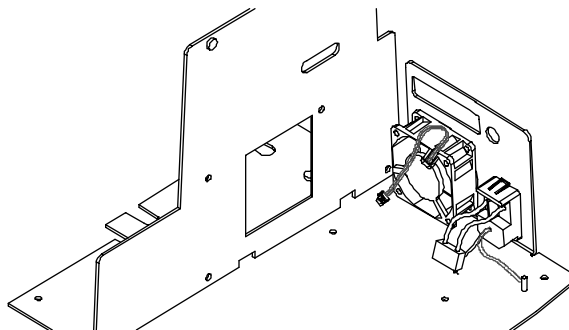

Figure 5-8. Cooling Fan/AC Entry Module Removal.
8. Using a #1 Phillips screwdriver and a 1/4" wrench or socket, remove the Fan from the Right Baseplate. See Figure 5-8.